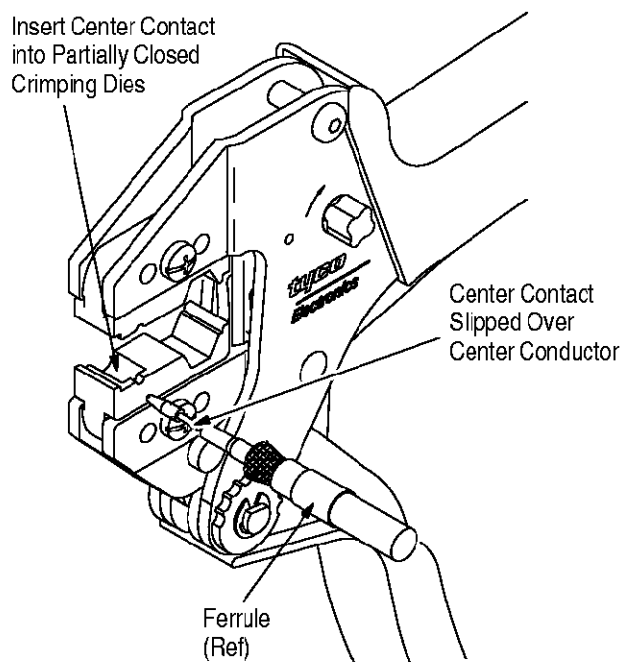

Figure 2
4. CRIMPING PROCEDURE (Figure 2)